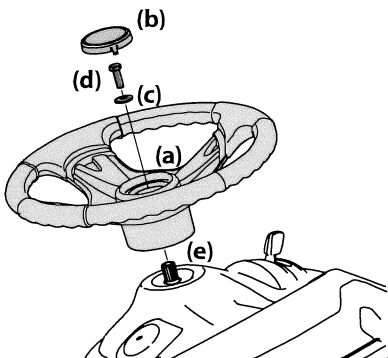

Figure 2-4
3. Place the cupped washer (c) — cupped side down — over the steering wheel (a) and secure with the hex bolt (d). See Figure 2-4.